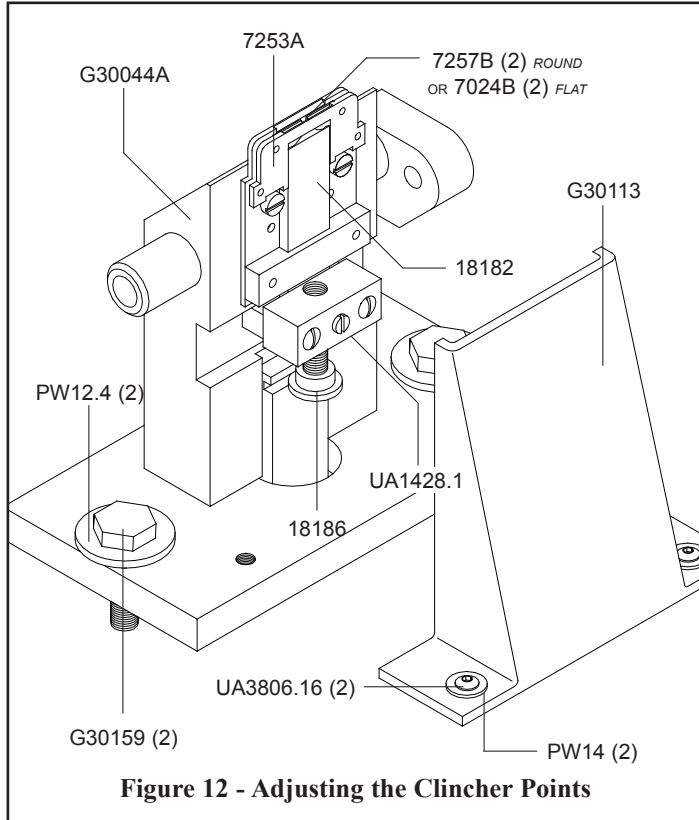
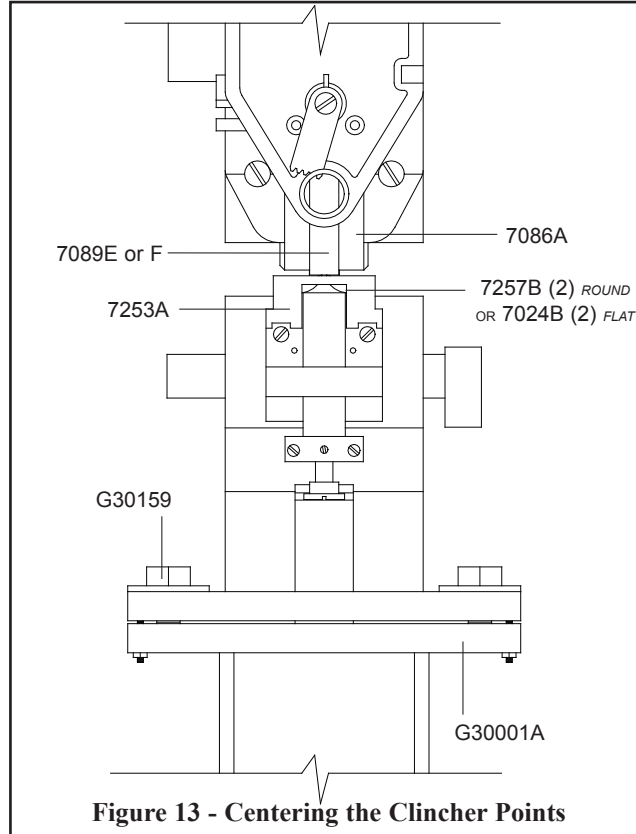

Figure 12 - Adjusting the Clincher Points
Figure 13 - Centering the Clincher Points
Adjusting the Clinchers (Figure 12)
If the staples are not clinching properly the Clincher Points (7257B, 7024B) will need to be adjusted within the Clincher Plate (7253A). To check this, cycle the machine manually and stop the machine at the point of clincher activation. If the Points are positioned too high or too low, refer to the instructions which follow and **Figure 12** for an explanation. Loosen and remove the two (2) Screws (UA3806.16)
If the stitch clinches properly but the legs are angled away from its crown, the Clincher Plate (7253A) may not be aligned with the Driver (7089E or F). Refer to both **Figure 12** and **Figure 13** and the following instructions for directions on centering the Clincher